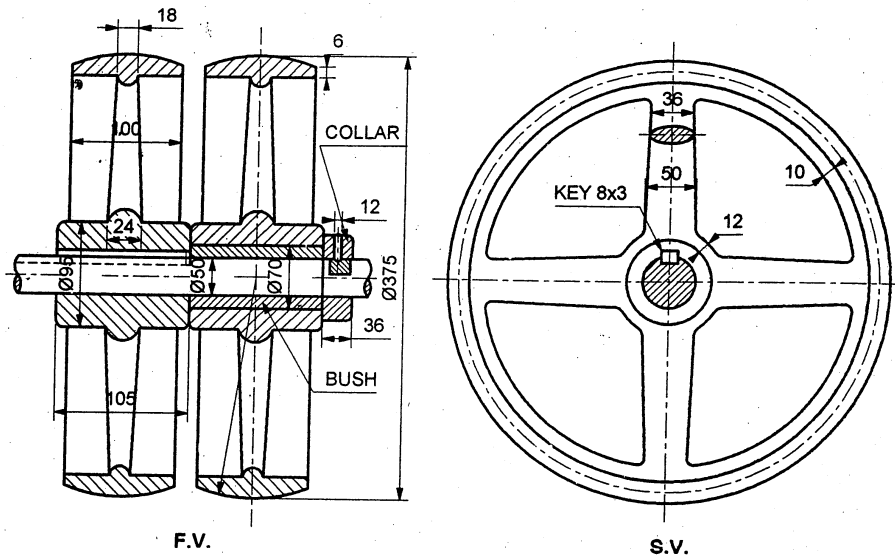

Fig. 6.
b) Fig. 6 shows an assembly of fast and loose pulleys.